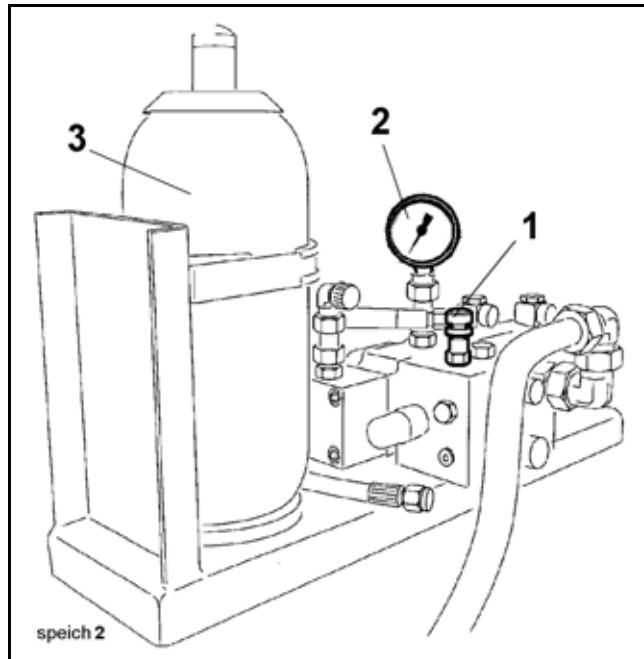
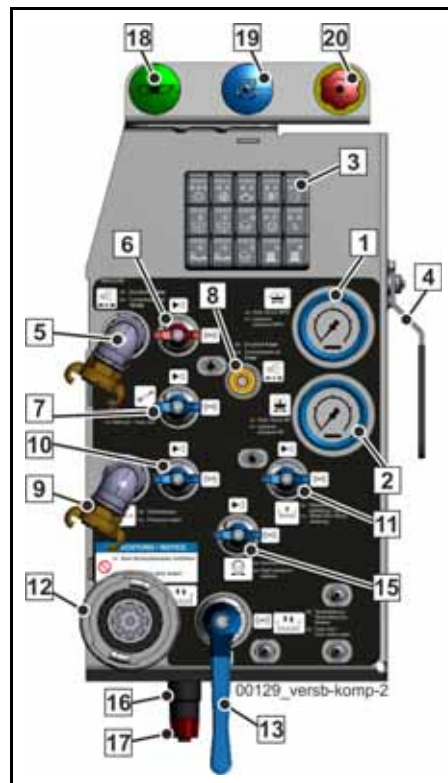

Fig. 318
Fig. 319 (2) Pressure gauge of the concrete pump / supply control
- Monitor the pressure gauge, e.g. (2) (**Fig. 318**) or (2) (**Fig. 319**),
Depending on the type of machine, the pressure gauge (2) is located directly on the accumulator safety block (**Fig. 318**) or at another position that is easy to see for the operator, e.g. (2) (**Fig. 319**).
- Open the manual accumulator breather valve (1) (**Fig. 318**).
- Read pressure gauge (2); it should be pointing to 0 bar.